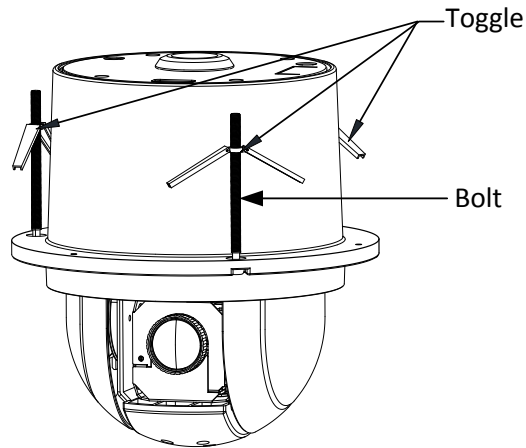

Figure 3-15 Install the Toggle Bolts
- 4) Reinstall the toggles as shown in Figure 3-15.